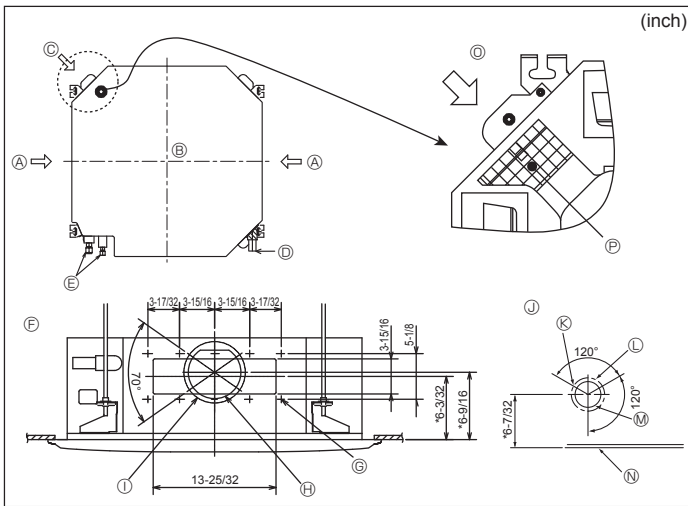

Fig. 3-4
3.4. Branch duct hole and fresh air intake hole (Fig. 3-4)
At the time of installation, use the duct holes (cut out) located at the positions shown in Fig3-4, as and when required.